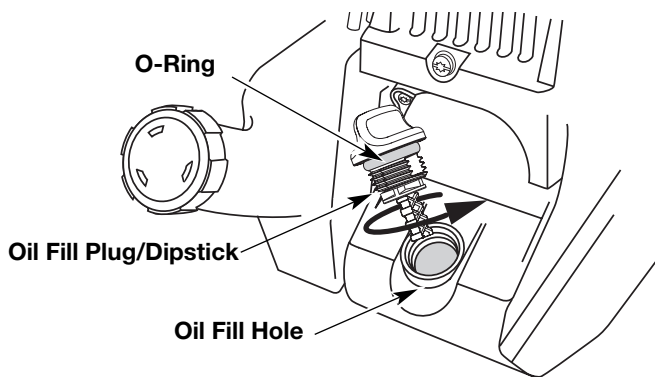

Fig. 16
6. If the level is low, add a small amount of oil to the oil fill hole and recheck (Fig. 16). Repeat this procedure until the oil level reaches the top of the dipstick.
NOTE: Make sure the O-ring is in place on the oil fill plug/dipstick when checking and changing the oil (Fig. 16).